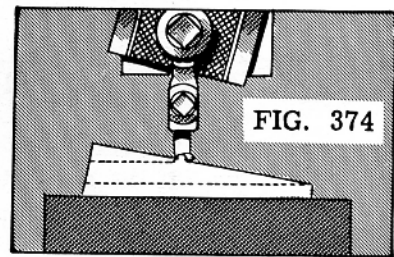

FIG. 374
1. Start the machine and move the work until the tool touches the work (Fig. 374).